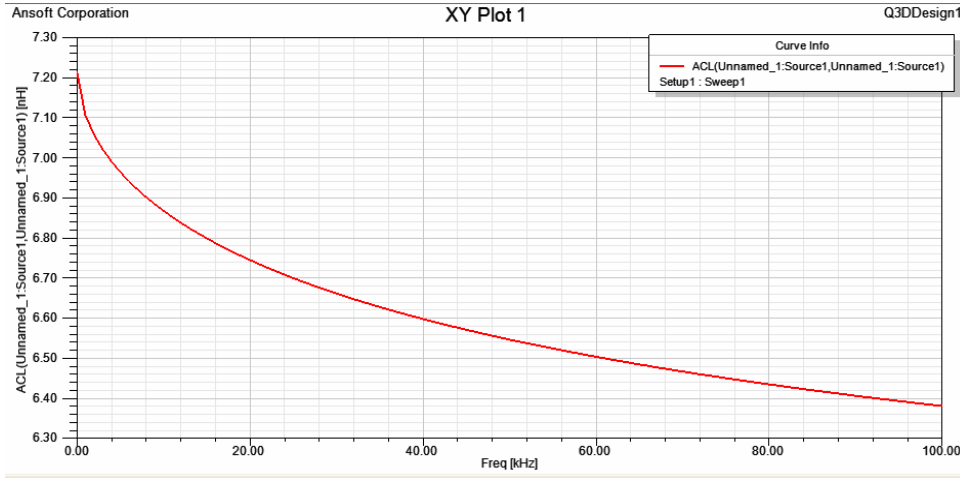
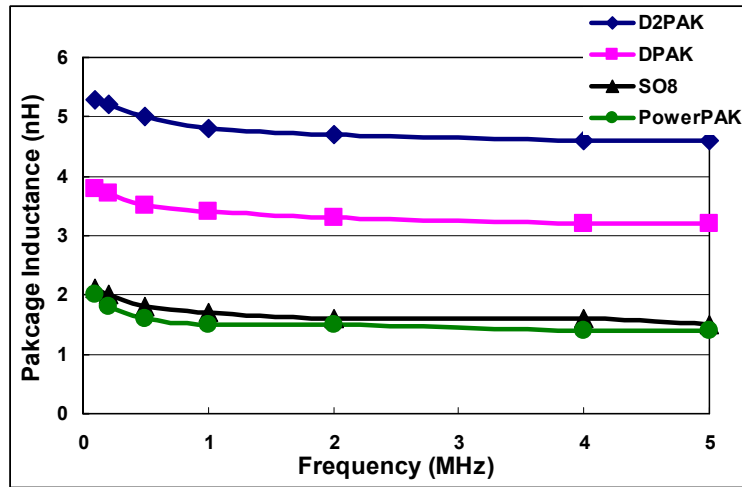

Figure 20 — TO220-3 Package Inductance vs. Switching Frequency Simulate by Ansoft
Figure 21 — Surface Mount Packages Inductance vs. Frequency
For L_S, figure 20 shows the typical L_S value of a traditional TO220-3 package MOSFET simulated by Ansoft. For some SMD packages, such like SO8 and TO252, the L_S is a bit smaller, which is in figure 21. The trace on the PCB layout will also bring in some leakage inductance, which is ~1nH/mm.
Derived from (17) and (18), the secondary CCM turn-off di/dt for this case is around $60A/\mu s \sim 150A/\mu s$ due to the different input. With a TO220 package SR FET ($\sim 6.5nH$ package inductance at $60kHz$ from figure 20), the voltage drop on package inductance V_{LK} will be $400mV \sim 900mV$ according to (16). This voltage drop is much larger compared with the voltage drop on $r_{ds(ON)}$ and dominate the V_{DS} in (15) trigger $-30mV$ turn-off threshold of the IC affirmatively.